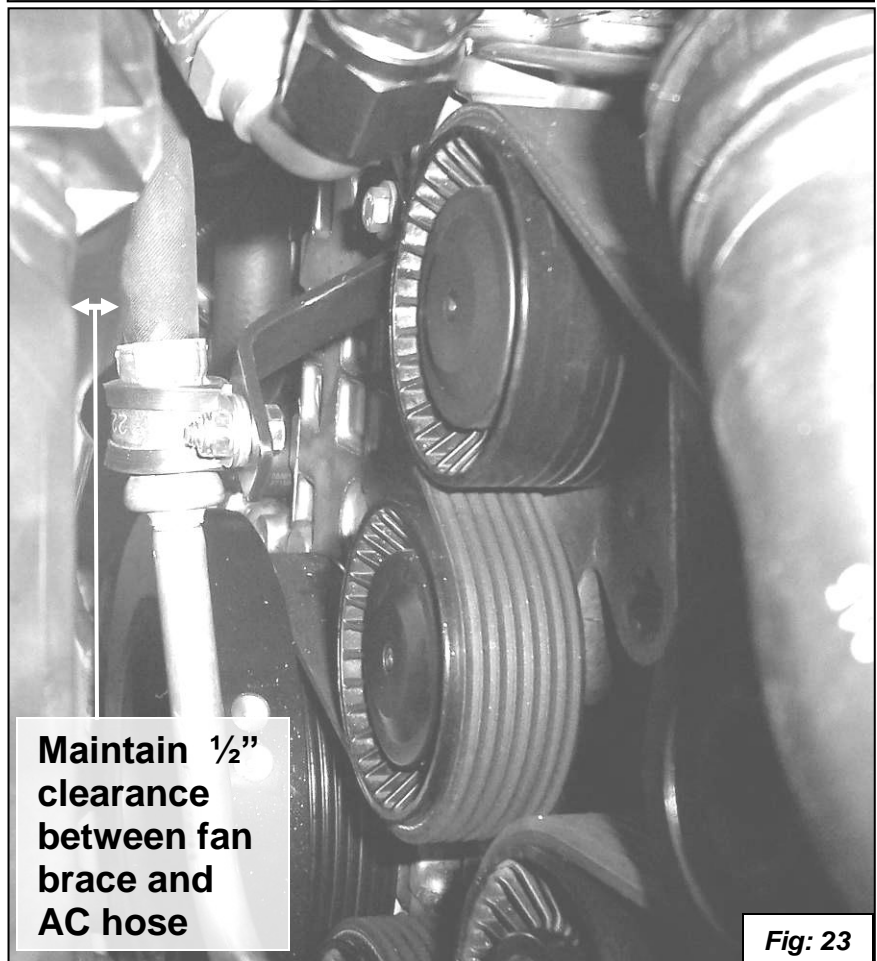

Fig: 23
25. Use the photo below to mount the new **AC Line Support Bracket** with the original bolt. Leave the mounting bolt loose enough that the Bracket can be easily rotated if necessary. The free end of this bracket should be just slightly higher than the mounted end or slightly up from level. Use the enclosed **#22 Loop Clamp, M6 x 16 bolt, M6 wave washer** and **M6 nylok nut** to attach the AC Line to the new Support Bracket. The goal is to lower the AC line about 2-1/2" at the swaged collar below the oil thermostat housing. You may want to leave the two bolts slightly loose until the Oil Lines are installed then tighten them when you are sure there is sufficient clearance, as they will still be easy to reach. Be careful to maintain about 1/2" or more clearance between the AC line and the rear of the auxiliary fan assembly at the closest point. You do not want the AC line to hit the fan assembly during hard braking. See **figure 23**.